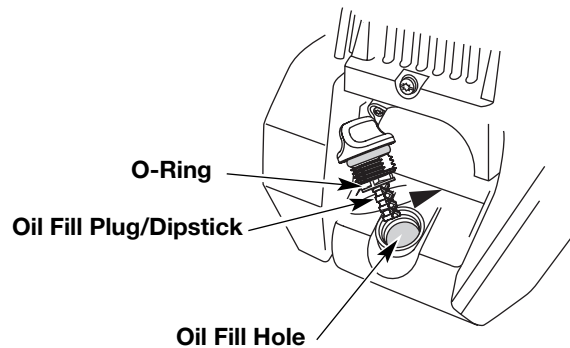

Figure 7
3. Remove the oil plug / dipstick from the crankcase. See Figure 7.